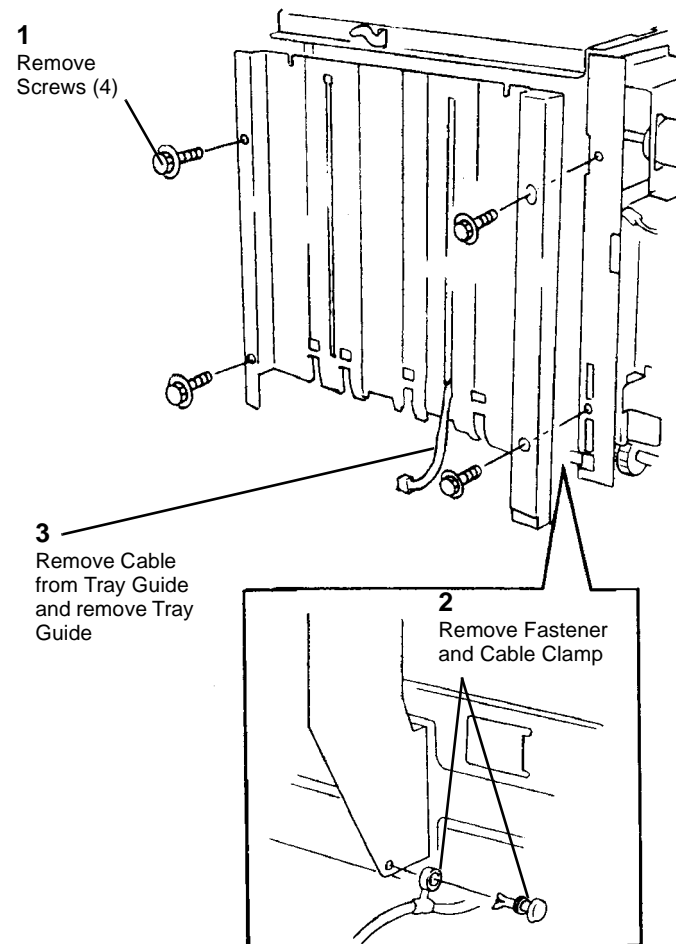

Figure 4 Removing Tray Guide
5. Remove the Tray Guide (Figure 4).